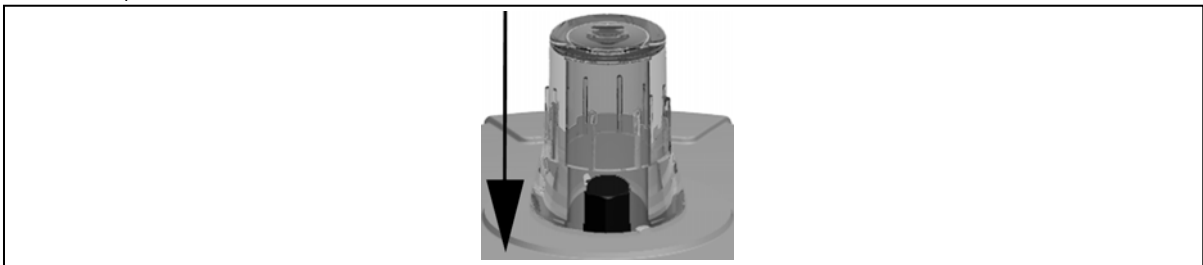

Fig. 22
- ▶ Move actuator in "closed" position, see fig. 22.